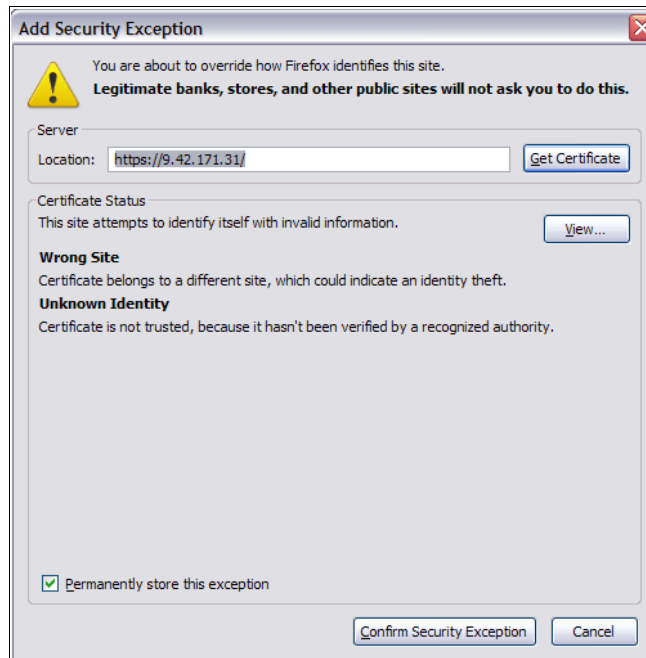

Figure 22-38 Add Security Exception
2. Click **Add an Extension**. Figure 22-38 is presented to acquire the SSL Certificate. Click **Get Certificate** and then **Confirm Security Exception**.